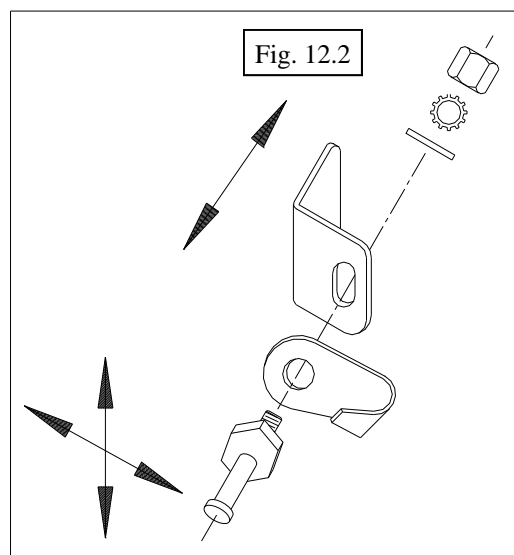

Fig. 12.2
12.2 Per fig. 12.2, the large striker bolt and nut can be loosened and reset higher or lower, in or out for better engagement and door seal. Use two 19mm open end wrenches. **Note:** finger guard to end up being centered and facing inward.